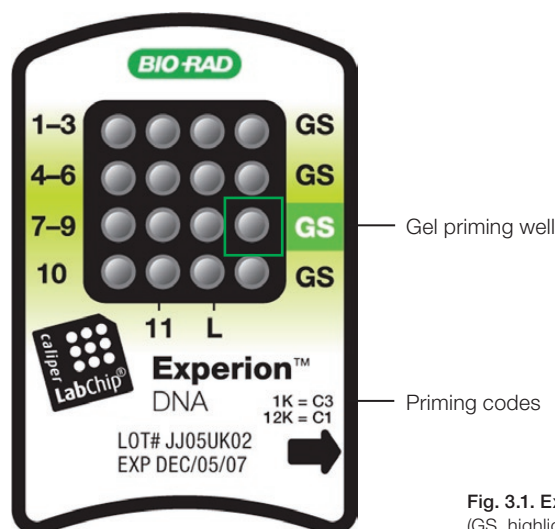

Fig. 3.1. Experion DNA chip. The locations of the gel priming well (GS, highlighted) and alphanumeric priming codes are indicated.
1. Pipet 9 μl GS into the highlighted well labeled GS, gel priming well (Figure 3.1). Insert the pipet tip vertically and to the bottom of the well when dispensing. Dispense slowly to the first stop on the pipet, and do not expel air at the end of the pipetting step.
2. On the priming station, set the pressure setting to **C** and the time setting to **3** or **1**, as specified by the alphanumeric code on the chip (Figure 3.1).